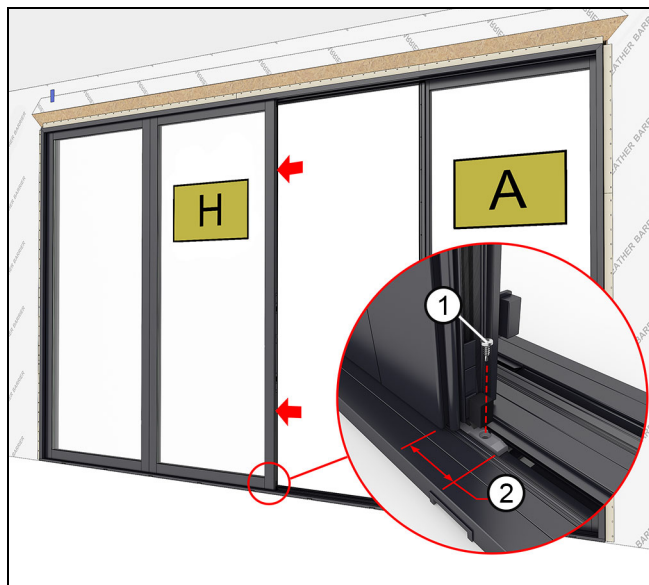

Figure 119 OOOX shown
9. Snap the lower stationary bracket onto sill, then slide underneath the stationary panel until fully seated. The bracket should stick out approximately 2 1/4" (57) from panel when fully seated. Fasten with a #8 x 1/2" self drilling screw. See Figure 119.